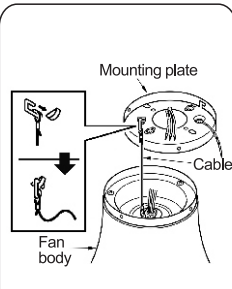

Fig.3
Step 2: Have the cable hook onto the mounting plate as the drawing for further installation(Fig.3)